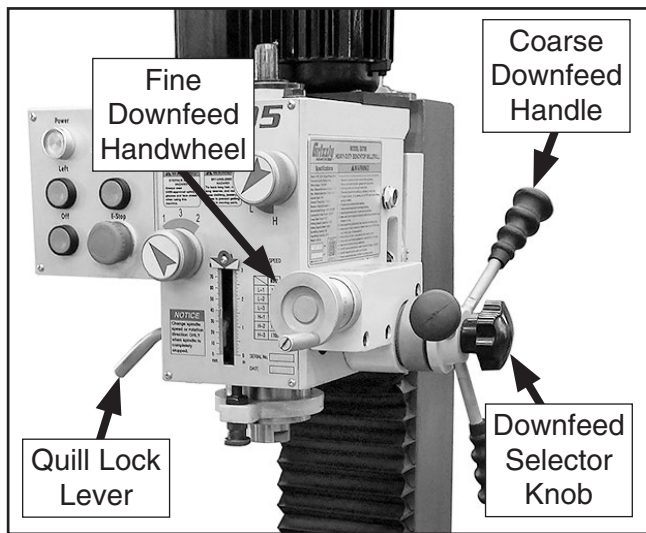

Figure 14. Spindle controls.
The Model G0795 is equipped with coarse and fine spindle downfeed controls as shown in **Figure 14**. Coarse downfeed is typically used with drilling operations, and fine downfeed is typically used with milling operations.
2. Tighten downfeed selector knob (see **Figure 14**) to engage fine downfeed handwheel.